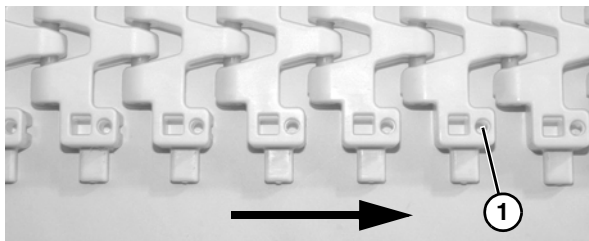

Figure 23
Ensure the belt is running in the correct direction, with hole (Figure 23, item 1) towards conveyor motor.